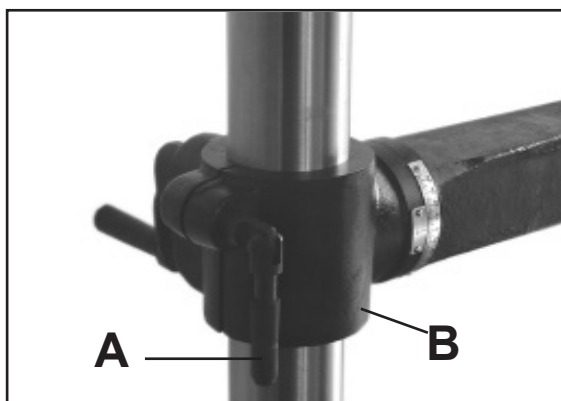

Figure 22
1. Loosen the column lock (A-Fig.22) on the table support bracket (B-Fig.22).
3. Tighten the column lock (A-Fig.22).